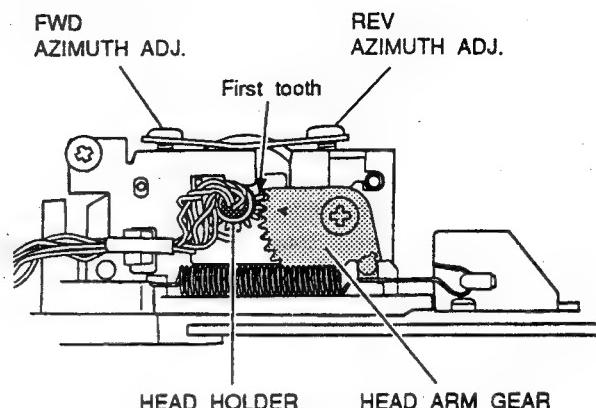

Fig. 3-11
If the removal of the HEAD HOLDER is necessary, align the first tooth of the HEAD HOLDER with the groove between the first and second tooth on the HEAD ARM GEAR when reassembling as shown in Fig. 3-11.
- 3) After adjustment, the AZIMUTH ADJ. screws must be paintlocked (refer to Fig. 3-11 on page 35).